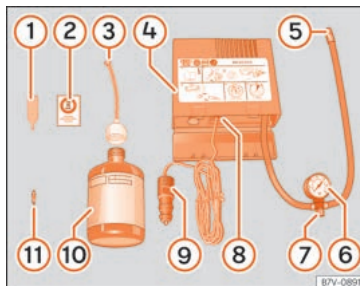

Fig. 71 Standard display: contents of the anti-puncture kit.
- Unscrew the tyre valve cap and insert. Use the »» Fig. 71 ① tool to remove the insert. Place it on a clean surface.
- Shake the tyre sealant bottle vigorously »» Fig. 71 ⑩.
- Screw the inflator tube »» Fig. 71 ③ into the sealant bottle. The bottle's seal will break automatically.
- Remove the lid from the filling tube »» Fig. 71 ③ and screw the open end of the tube into the tyre valve.
- Place the insert back into the tyre valve using the tool »» Fig. 71 ①.
- Screw the compressor tyre inflator tube »» Fig. 71 ⑤ into the tyre valve.
- Check that the air bleed screw is closed »» Fig. 71 ⑦.
- Insert the connector »» Fig. 71 ⑨ into the vehicle's 12-volt socket »» page 162.
- Turn the air compressor on with the ON/OFF switch »» Fig. 71 ⑧.